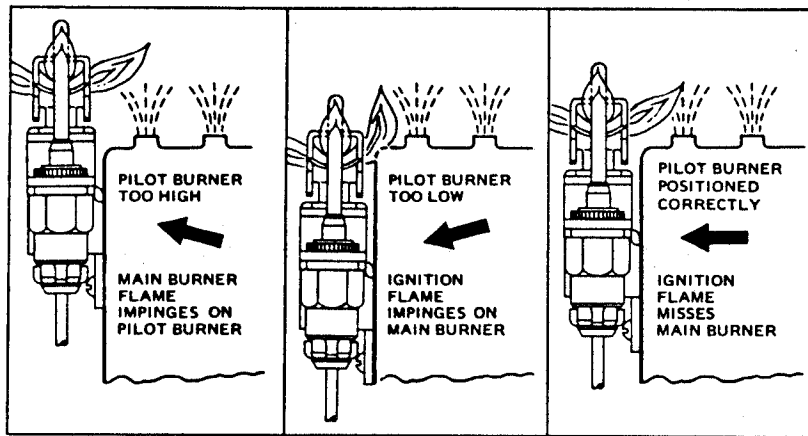

Fig. 51—Proper location of the pilot burner.
- must not impinge on adjacent parts; main burner must not impinge on pilot burner (Fig. 51).